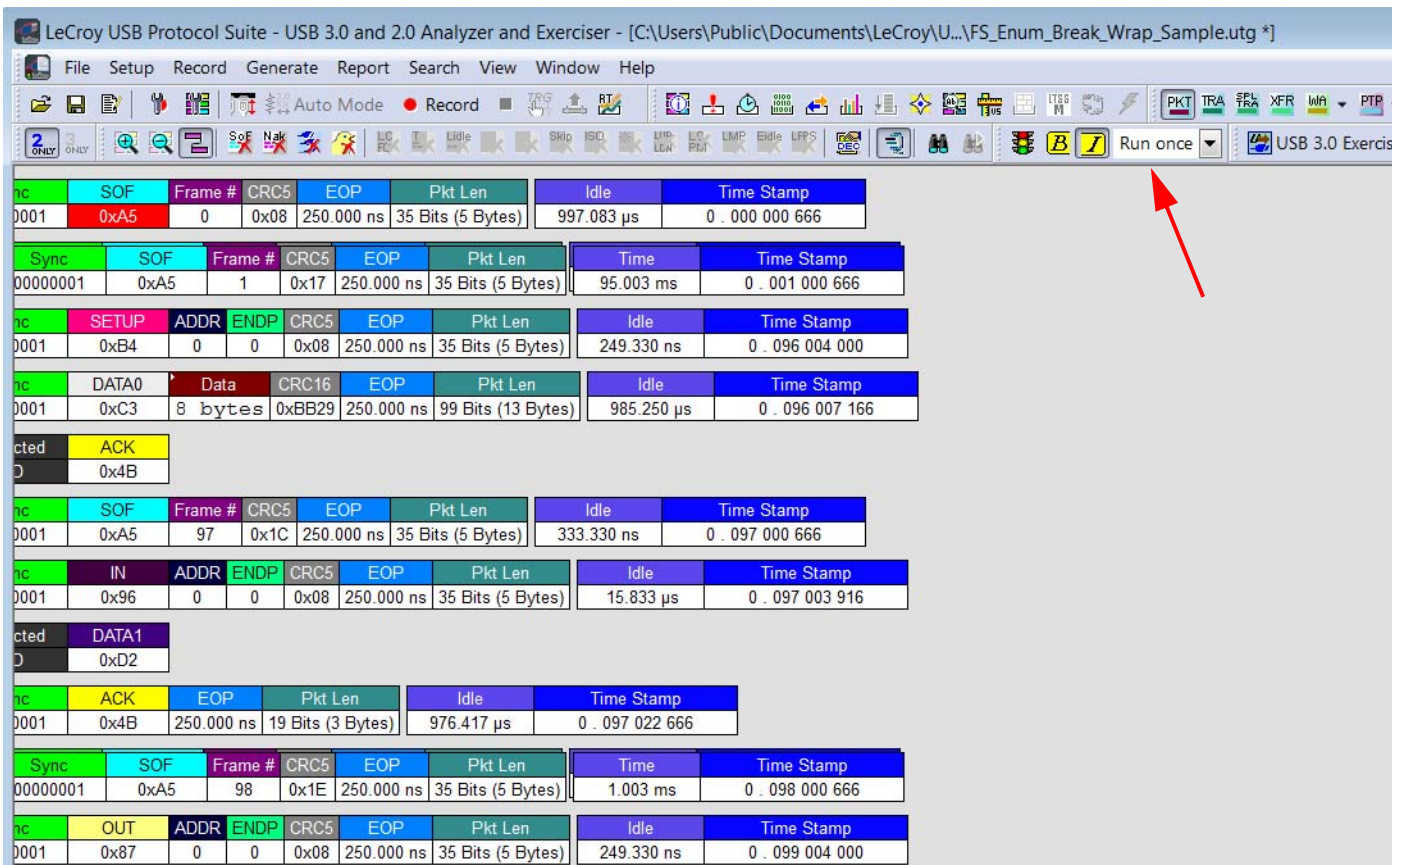

Figure 11.15: Traffic Generation File
4. Click **Open**. The file opens (see Figure 11.15 on page 341.)